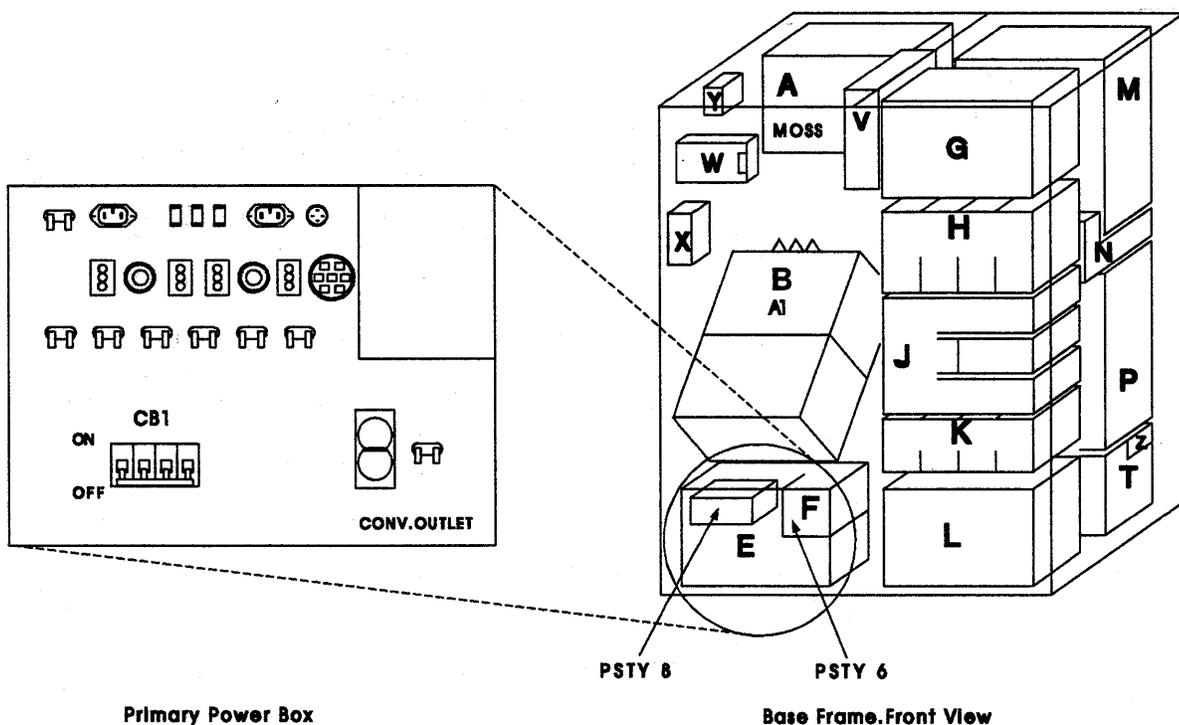

Figure 4-139. Primary Power Box
3. Switch the **CB1** OFF. Refer to Figure 4-139
11. Switch the **CB1** ON. Refer to Figure 4-139 on page 4-152.